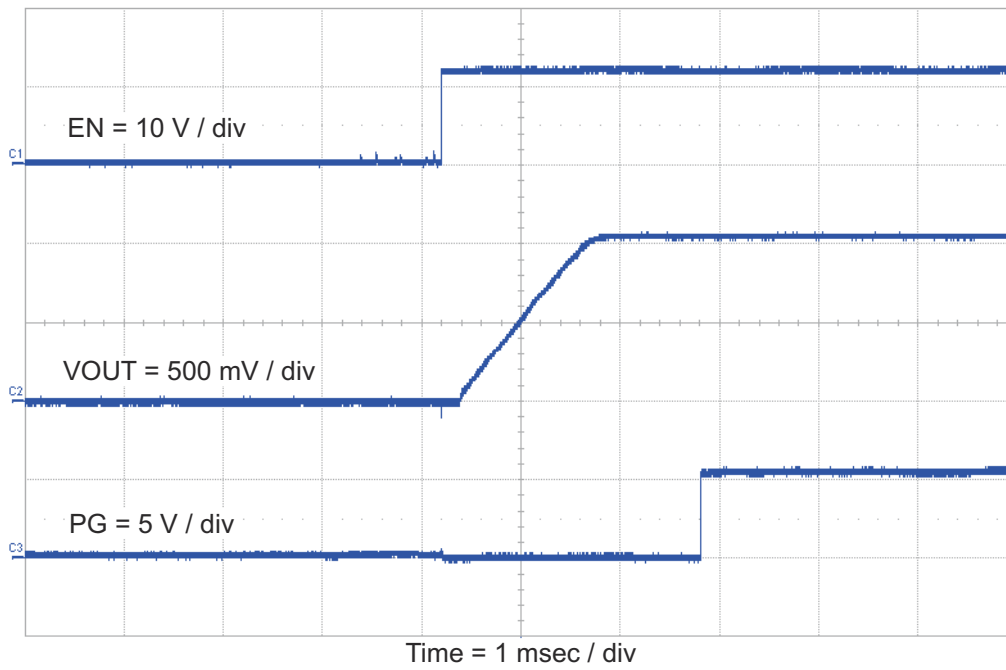

Figure 4-9. TPS54425EVM-608 Start-Up Relative to EN
The TPS54425EVM-608 start-up waveform relative to enable (EN) is shown in Figure 4-9.